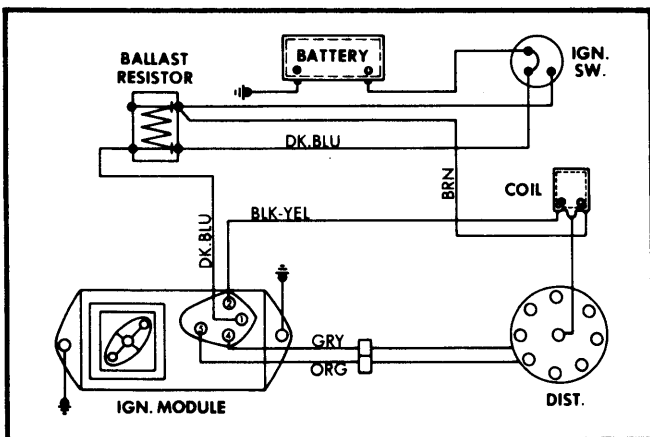
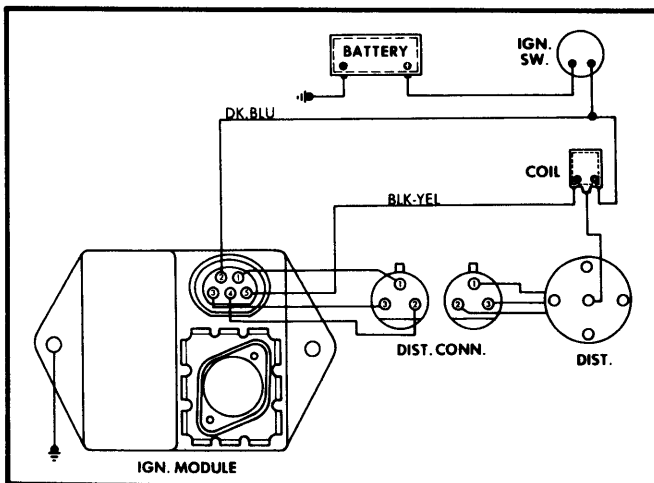

Fig. 1 Chrysler Corp. Electronic Ignition Wiring Diagram for V8 and 6-Cyl. Engines
Fig. 2 Chrysler Corp. Electronic Ignition Wiring Diagram for 4-Cyl. Models
- 1) Connect voltmeter positive lead to harness connector pin 1 (pin 2 on 4-cyl.). Reading should be battery voltage. If not, check and repair wire/components from harness connector back to battery. Refer to Fig. 1 or Fig. 2.